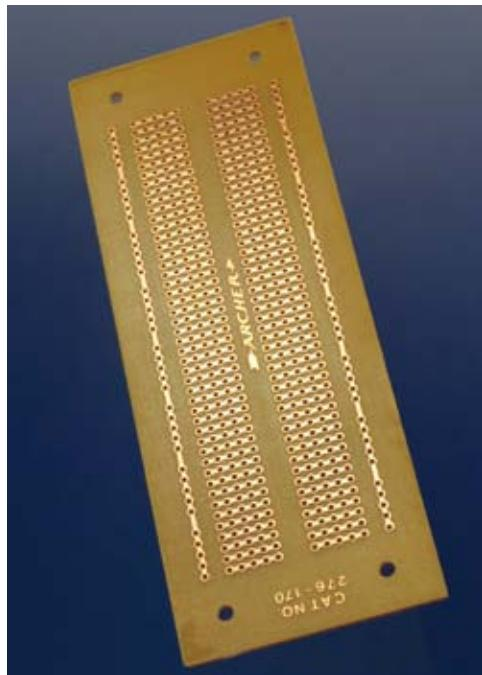

Figure 3-72. Perforated board etched with copper in variants of a breadboard layout. This example is appropriate for Experiment 15.
2. **Breadboard-style wiring.** Use perforated board that is printed with copper traces in exactly the same pattern as the conductors inside a breadboard. Once your circuit works on the breadboard, you move the components over to the perfboard one by one, maintaining their exact same positions relative to each other. You solder the "legs" of the components to the copper traces, which complete the circuit. Then you trim off the surplus wire. The advantage of this procedure is that it's quick, requires very little planning, and minimizes the possibility for errors. The disadvantage is that it tends to waste space. A cheap example is shown in Figure 3-72.